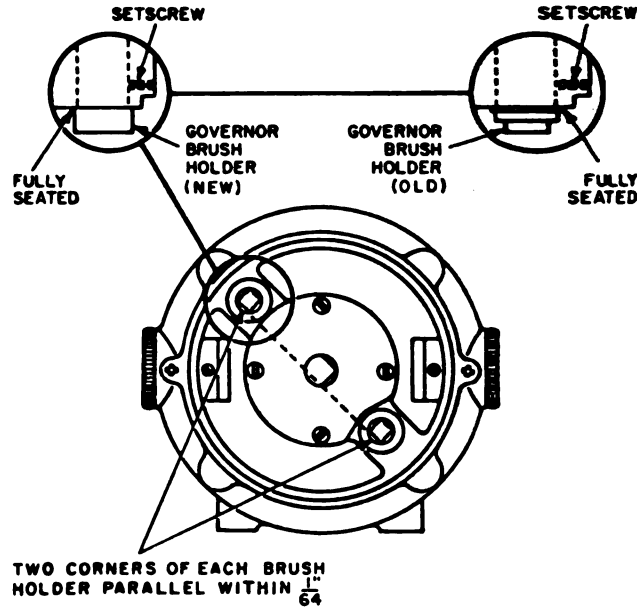

Figure 3-226. Motor-governor brush holder adjustment.
**3-263. Motor-Governor Brush Holder Adjustment (fig. 3-226)**
- (1) The governor brush holders should be fully seated.
- (2) Two side surfaces of the square hold in each governor brush holder should be aligned (within 1/64 inch) with the same surfaces of the other brush holder (fig. 3-226).